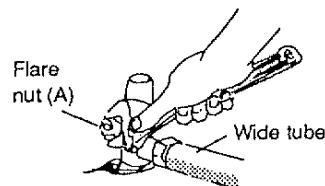

Fig. 16
- Wait until as much air purge gas as possible is released, and properly tighten up the flare nut A of the wide tube. (Fig. 16)